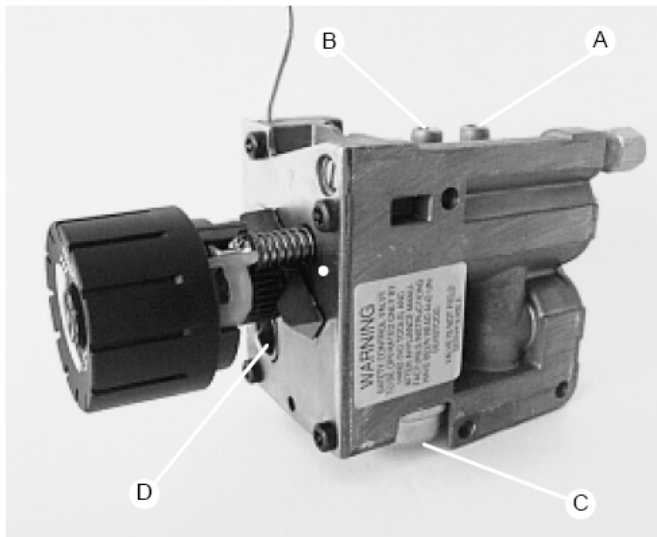

Figure 8
1. To check the inlet pressure to the gas valve, a plugged tapping, accessible for test gauge connection, is provided on the gas valve. (Figure 8 - A).
The gas inlet pressure can be measured by connecting a test gauge to the connection provided on the gas valve. (Figure 8 - A) Once installation is complete, the gas inlet pressure must be checked. The minimum gas inlet pressure must be as shown in "Technical Data". After checking the gas inlet pressure, disconnect the test gauge and firmly tighten the screw of the gauge connection, then check for gas leaks.
The gas manifold pressure can be measured by connecting a test gauge to the connection provided on the gas valve. (Figure 8 - B). The furnace comes set from the factory at the correct manifold gas pressure. After the installation is completed, the gas manifold pressure must be checked both in Hi and Lo input. Turn the control knob to switch the unit from Hi to Lo input. The position of the knob in which this occurs depends on the actual room temperature. The gas manifold pressure must be as shown in "Technical Data". Differences of plus or minus 0.1 in. w.c. are accepted. If the Hi or Lo gas manifold pressures are different from the values given in the "Technical Data" or are more than 0.1 in. w.c., shut off the furnace and contact a qualified service technician.
The furnace comes set from the factory at the correct HI and LO gas manifold pressures as shown in "Technical Data". It is recommended to check the pressures periodically (minimum once a year). If adjustment is required, this can be done by adjusting screws C and D. (Figure 8) A test gauge must be connected as explained in "Checking the Gas Manifold Pressure".